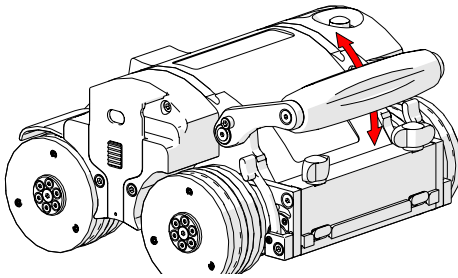

Fig. 75 - Pivot handle as desired
2. Pivot the handle as required (Fig. 75).